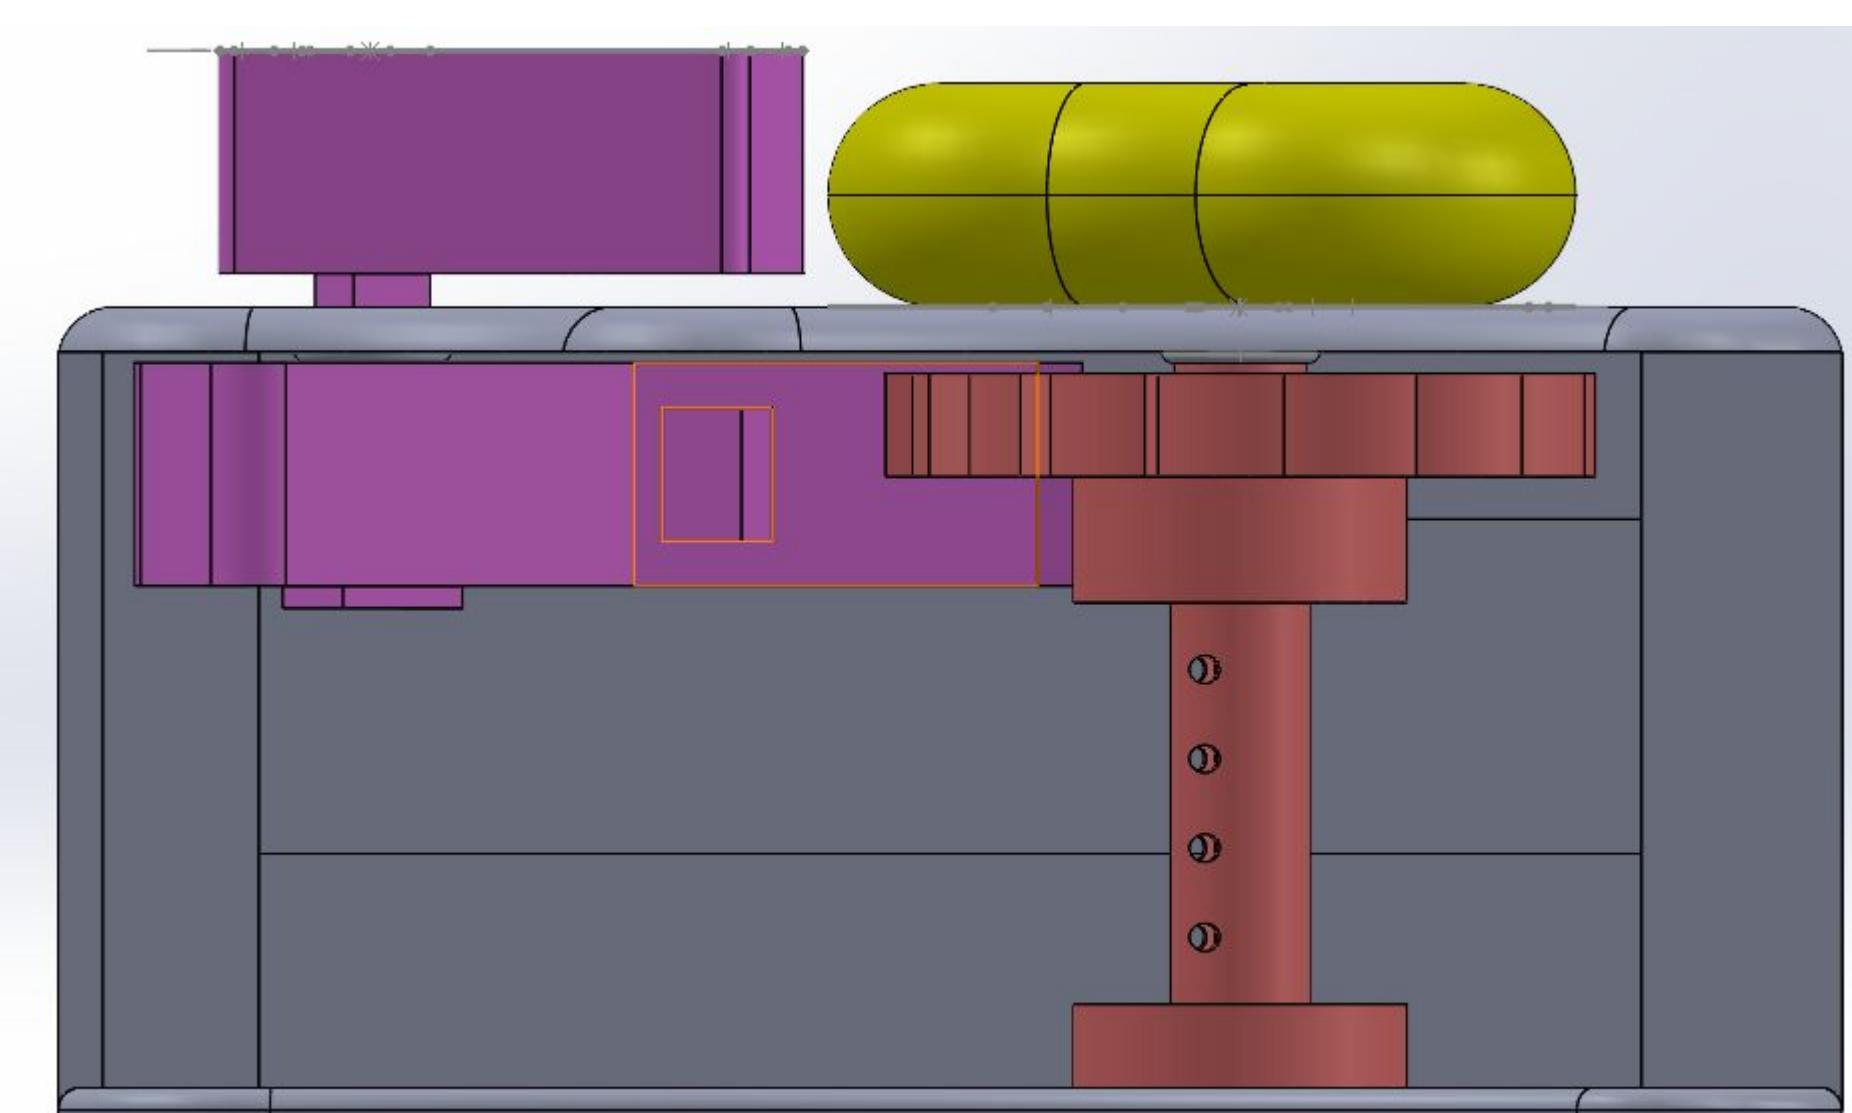

Figure 1. Inner Hand Assembly
- Both variations feature the protective carbon outer shell seen in *Figure 1* bound against rolled silicone chosen for its pliability. Chicago screws combine the layers for minimal protrusions while maintaining tight contact.